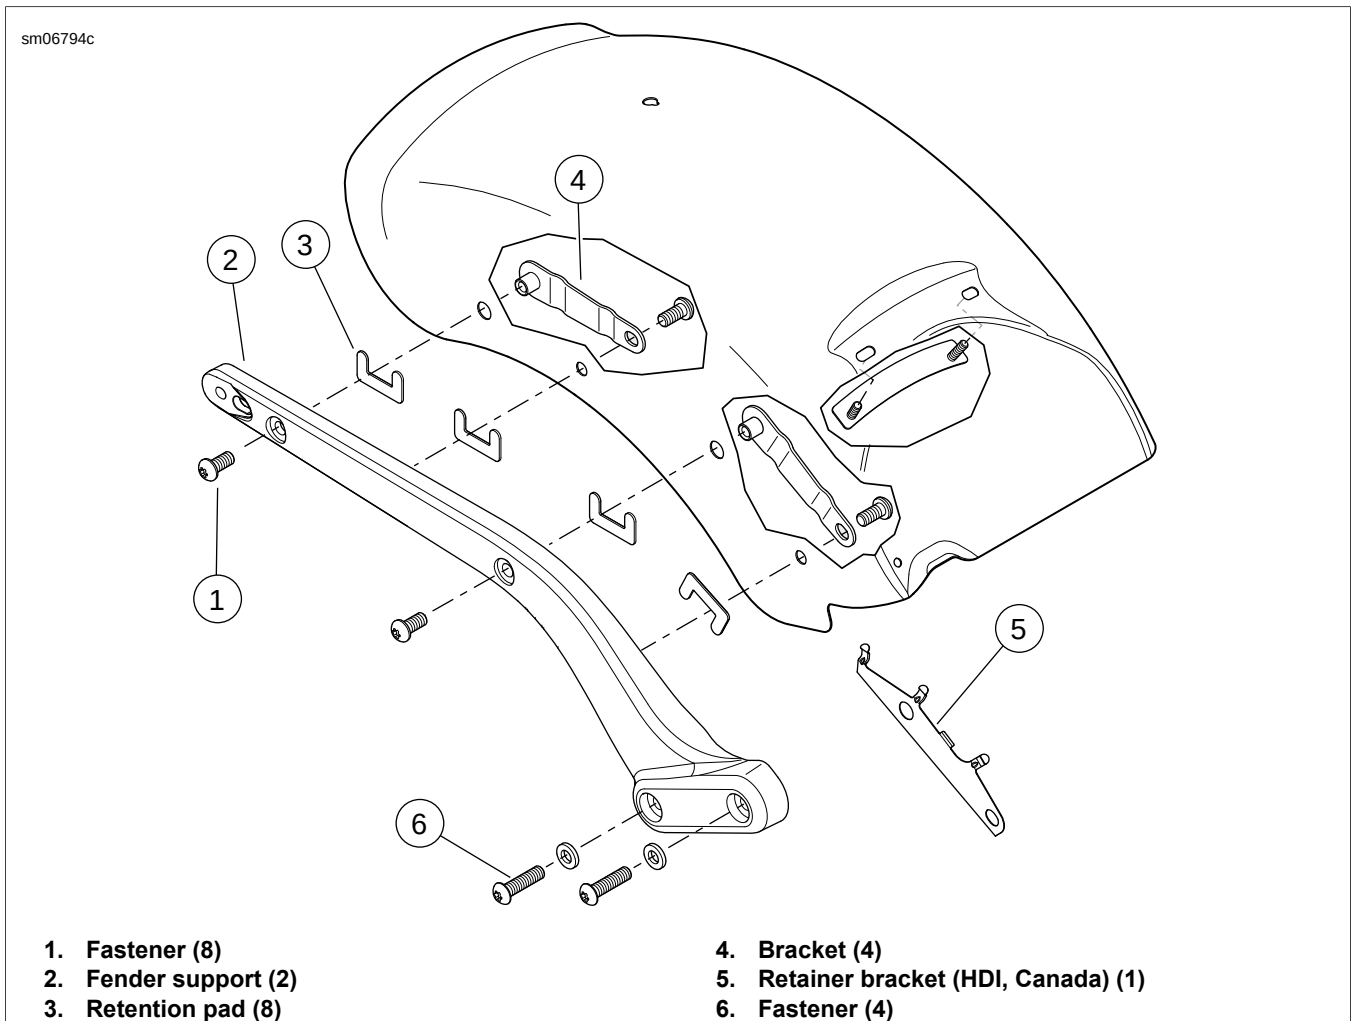

Figure 2-115. Rear Fender
4. See Figure 2-115. Remove fasteners (6). Lift fender from frame.
- b. Remove fasteners (1), fender supports (2) and brackets (4).